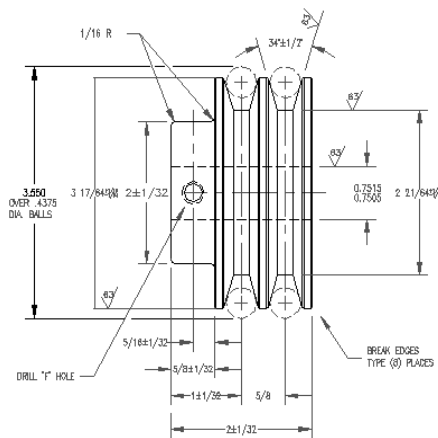

**Figure 14-28:** The pulleys with two leaders.
- Save your drawing. It should look like Figure 14-28.